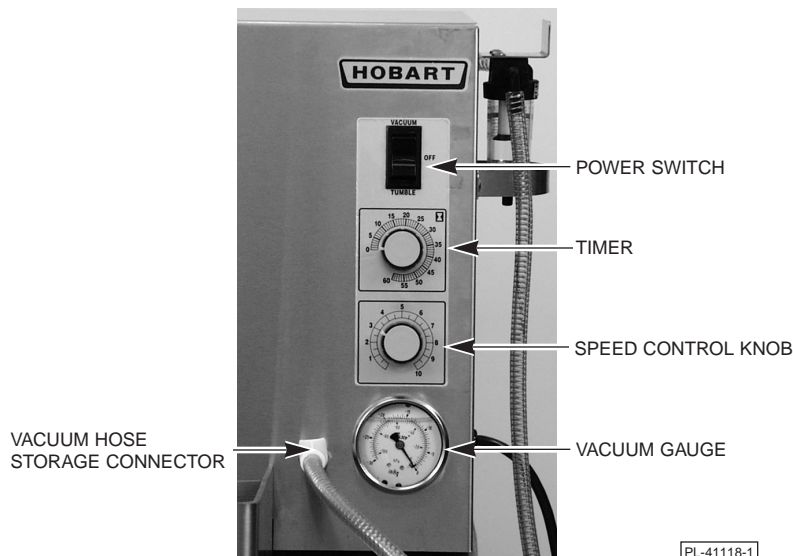

Fig. 2
CONTROLS (Fig. 2)
8. Close the Vacuum Valve. Unplug the vacuum hose from the tank and connect it to the storage connector (see Fig. 2) on the machine. **DO NOT** operate the marinator with the vacuum hose connected to the tank.